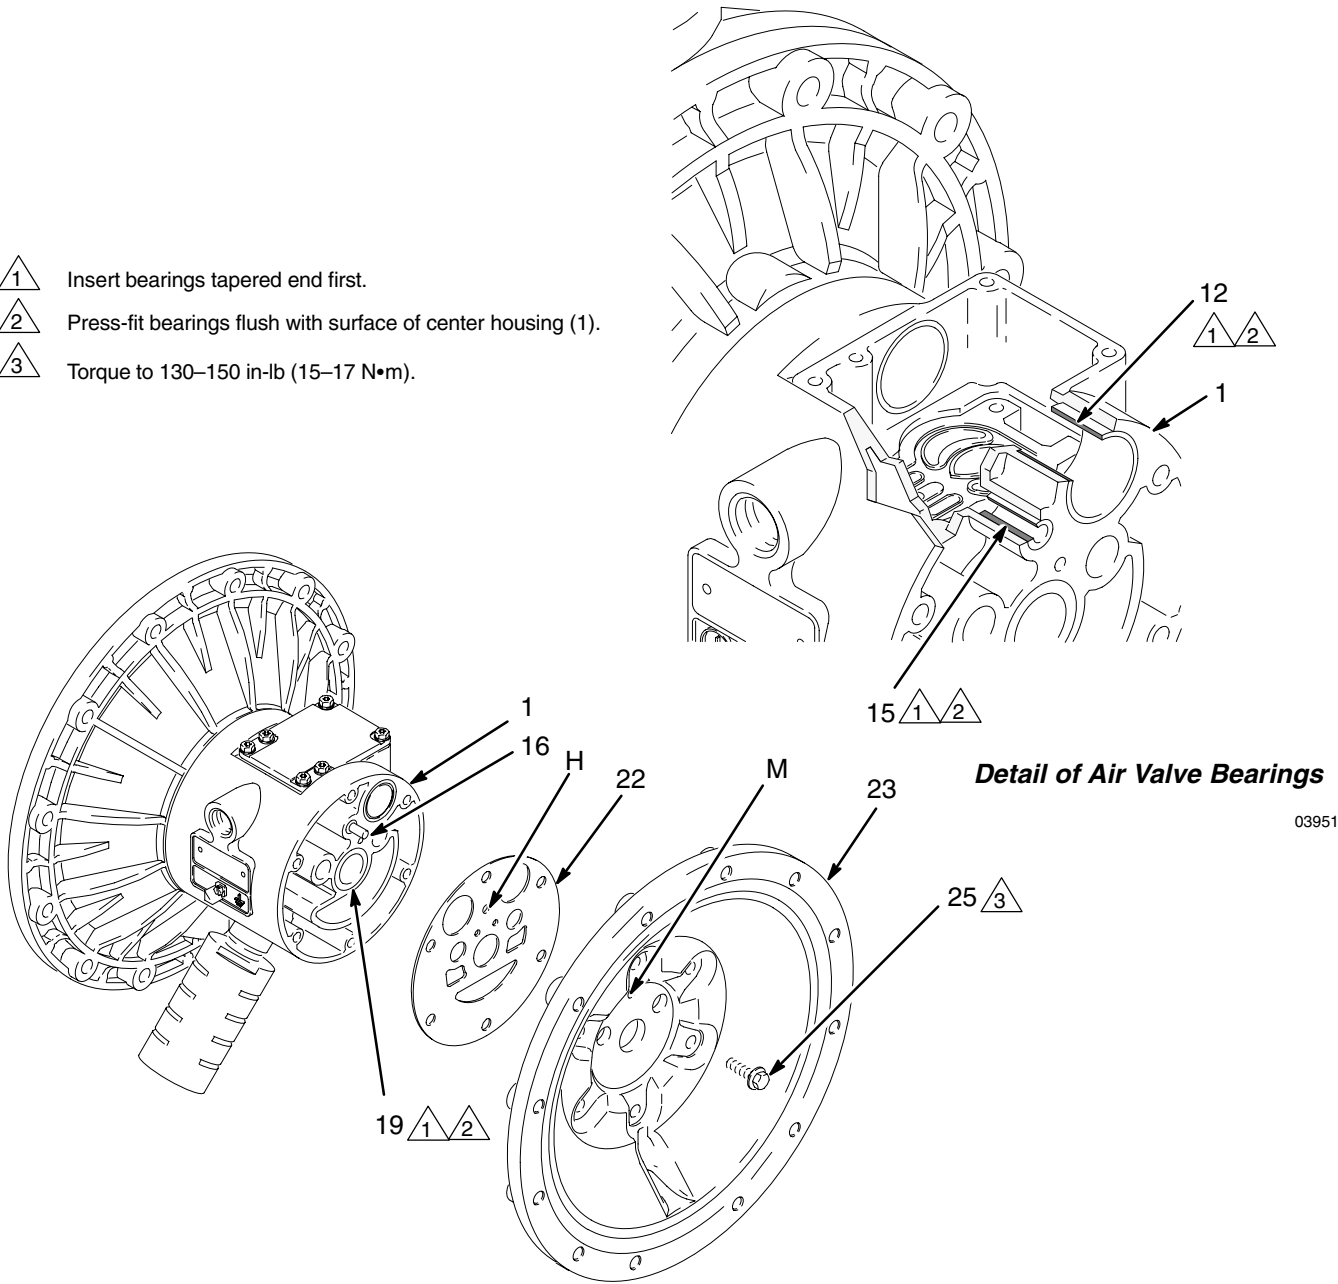

Fig. 14
5. Using a 10 mm socket wrench, remove the screws (25) holding the air covers (23) to the center housing (1). See Fig. 14.
6. Remove the air cover gaskets (22). Always replace the gaskets with new ones.
7. Use a bearing puller to remove the diaphragm shaft bearings (19), air valve bearings (12) or pilot pin bearings (15). Do not remove undamaged bearings.
1. If removed, install the shaft u-cup packings (402*) so the lips face **out** of the housing (1).
2. The bearings (19, 12, and 15) are tapered and can only be installed one way. Insert the bearings into the center housing (1), **tapered end first**. Using a press or a block and rubber mallet, press-fit the bearing so it is flush with the surface of the center housing.
4. Align the new air cover gasket (22) so the pilot pin (16) protruding from the center housing (1) fits through the proper hole (H) in the gasket.
5. Align the air cover (23) so the pilot pin (16) fits in the middle hole (M) of the three small holes near the center of the cover. Install the screws (25), handtight. See Fig. 14. Using a 10 mm socket wrench, torque the screws oppositely and evenly to 130–150 in-lb (15–17 N•m).